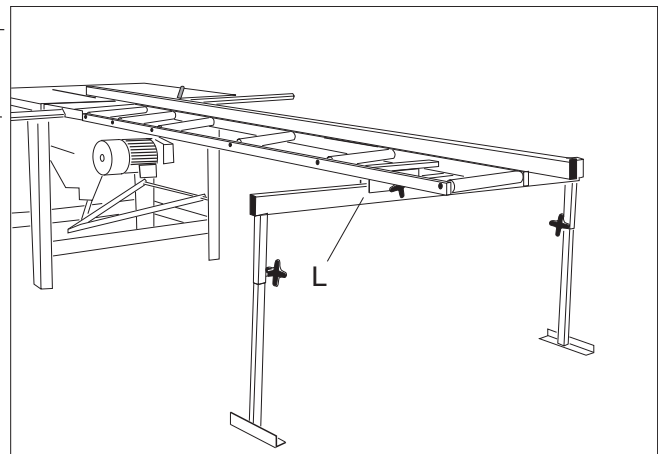

Fig. 3a
- Set up rollertable support trestle and adjust at approximate height. Attach the rollertable to the rollerbox with screws. Now adjust correct trestle height **L** Fig. 3a.